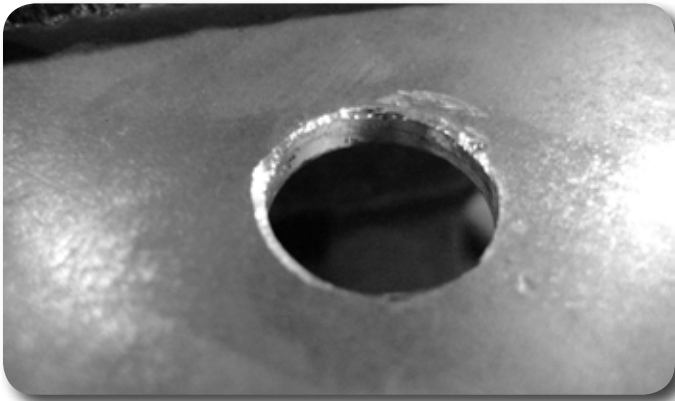

Figure 1
1. Drill hole to appropriate size for rivet nut installation. 3/8" Rivet nuts require a 17/32" drill. It is critical that this hole is drilled to the correct size. Remove any burrs that could keep the rivet nut from seating flat against either side of the hole surface. **Figure 1**